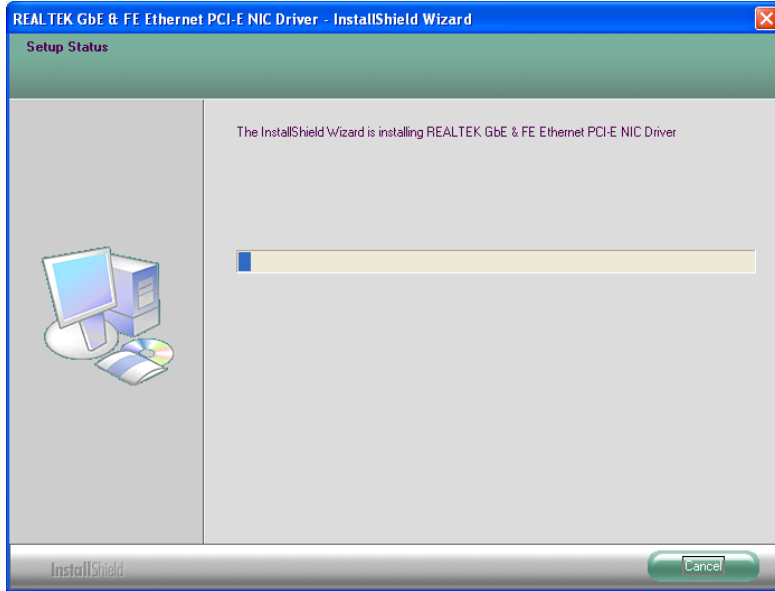

Figure 6-17: LAN Driver Installation
Step 8: The installation progress can be monitored in the progress bar shown in Figure 6-17.